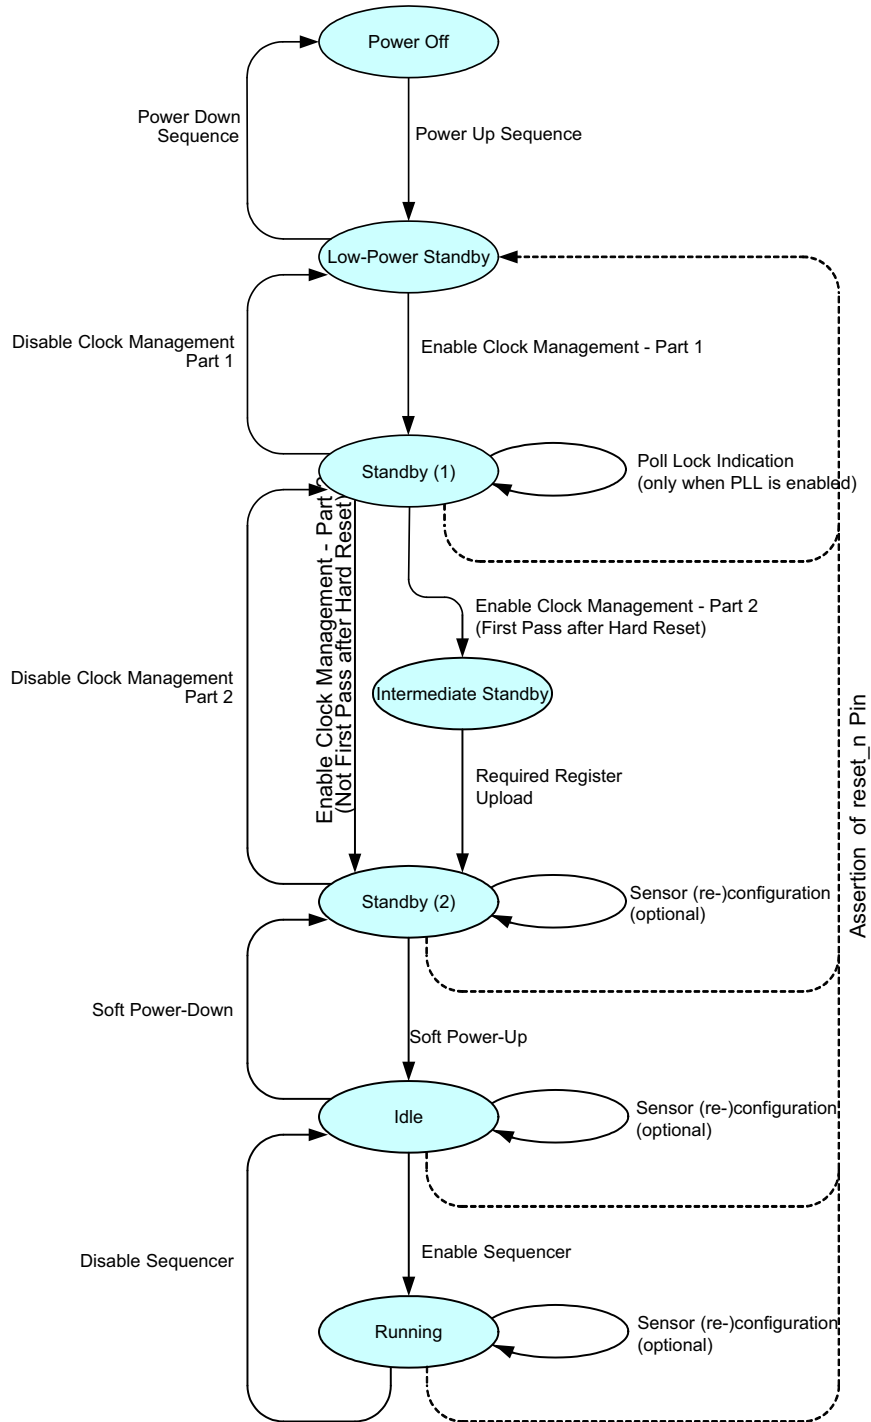

Figure 16. Sensor Operation Flowchart
Figure 16 shows the sensor operation flowchart. The sensor has six different ‘states’. Every state is indicated with the oval circle. These states are Power off, Low power standby, Standby (1), Standby (2), Idle, Running.
is not used, this step can be bypassed as shown in Figure 16 on page 16.